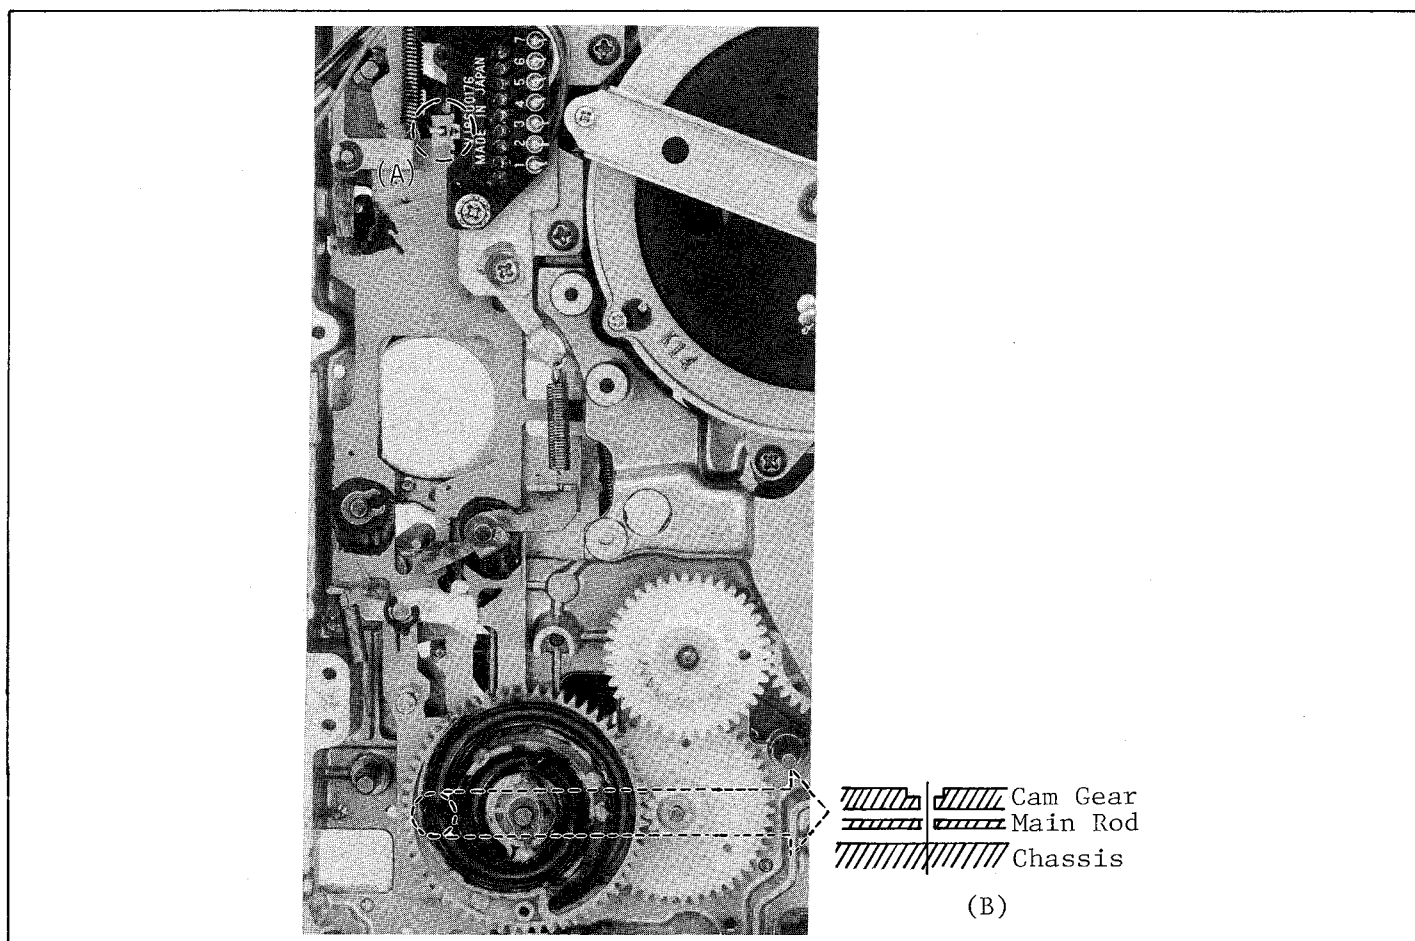

Fig. M55. Adjustment of Cam Gear and Mode Select Switch - (3)
2. Slowly slide the main rod so that the V-shaped mark on it meets the V-shaped mark of the mode select switch. This will simulate the stop mode (Unloading completion) of the main rod and mode select switch. See "A" in Fig. M55.
3. Insert the cam gear so that the hole on the gear meets the hole on the main rod. See "B" in Fig. M55. To match the two holes either, use the small hex. wrench (VFK75) or a metal pin. Also ensure that the two V-shaped marks are aligned and that the simpler slotted side of the cam gear is visible.